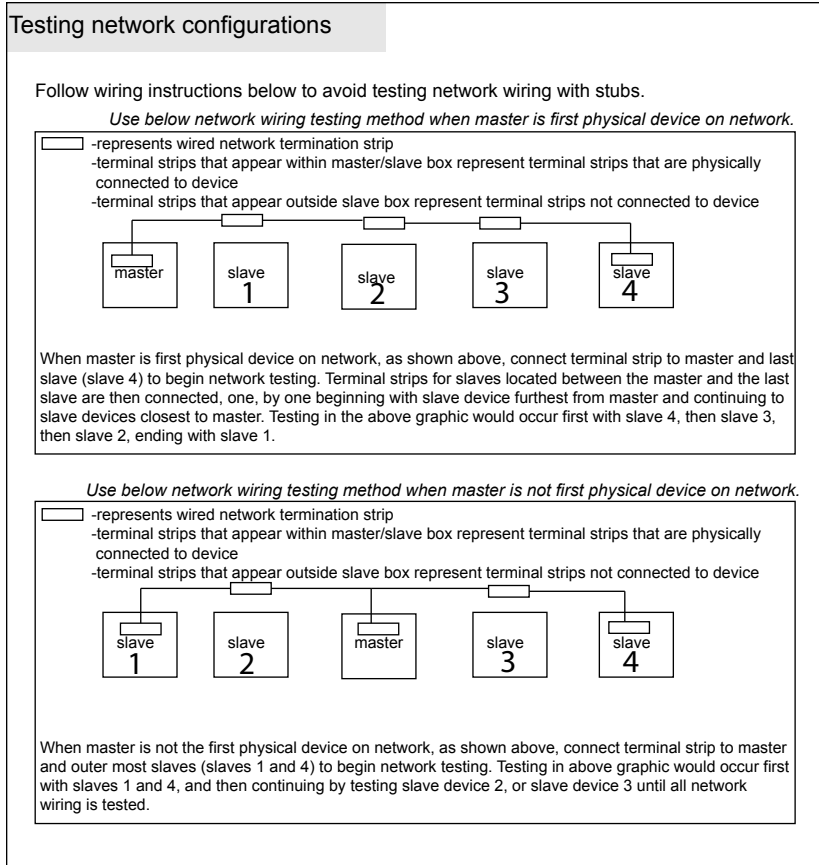

Figure 3.27
- *If the master is not the first physical device on the network, place network terminal strip on the master and on the first and last physical devices on the network. (In this case two slaves will need to be tested at the same time.) - figure 3.27.